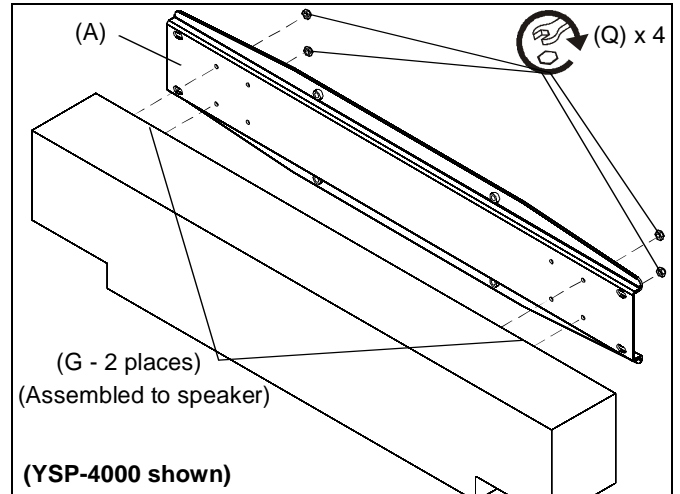
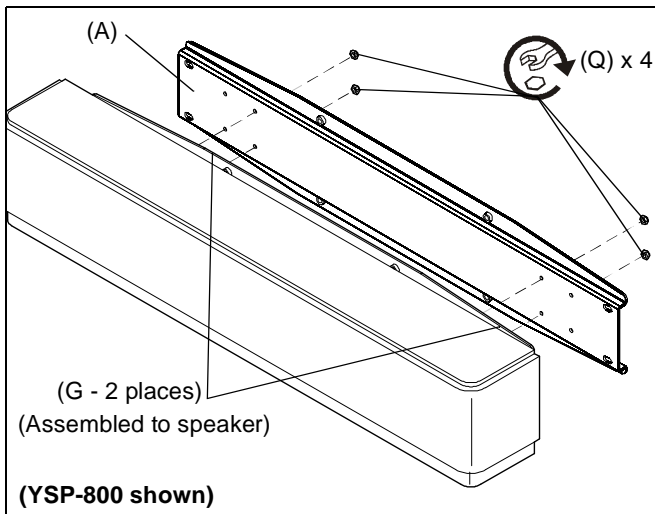

Figure 6
Figure 5
3. Slide threaded studs located on two speaker adapters (G) through four mounting holes in speaker mount adapter (A). (See Figure 5) or (See Figure 6)
4. Secure two speaker adapters (G) to speaker mount adapter (A) using four Nylock nuts (Q).
**NOTE:** (See Figure 5) or (See Figure 6) dependent on whether you are attaching a YSP-800 or YSP-4000/4100/5100 speaker.